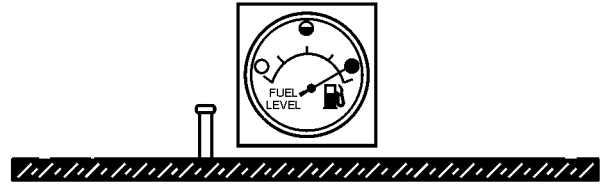

Figure 21. Full Fuel Tank
5. **NEVER overfill fuel tank** — It is important to read the fuel gauge when filling trailer fuel tank. **DO NOT** wait for fuel to rise in filler neck (Figure 21).